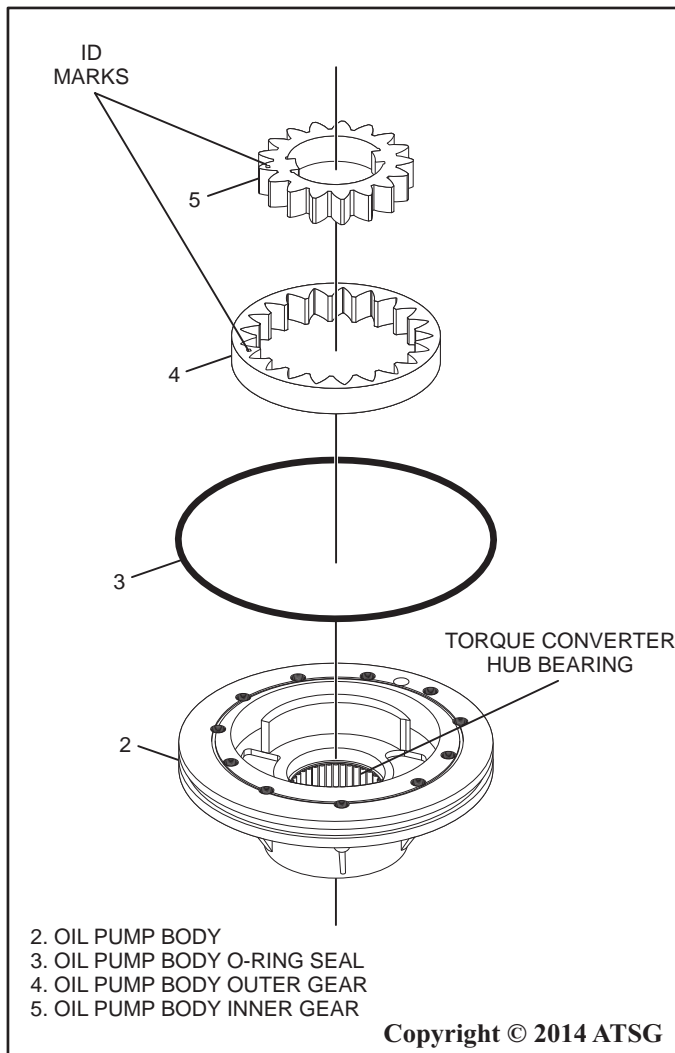

Figure 65
13. Coat the pump body inner and out gears with a small amount of ATF and install the gears into the pump body with the ID marks facing upward as shown in Figure 65.
14. Install a new pump body o-ring as shown in Figure 65, coat the o-ring with a small amount of ATF or Trans-Jel®.